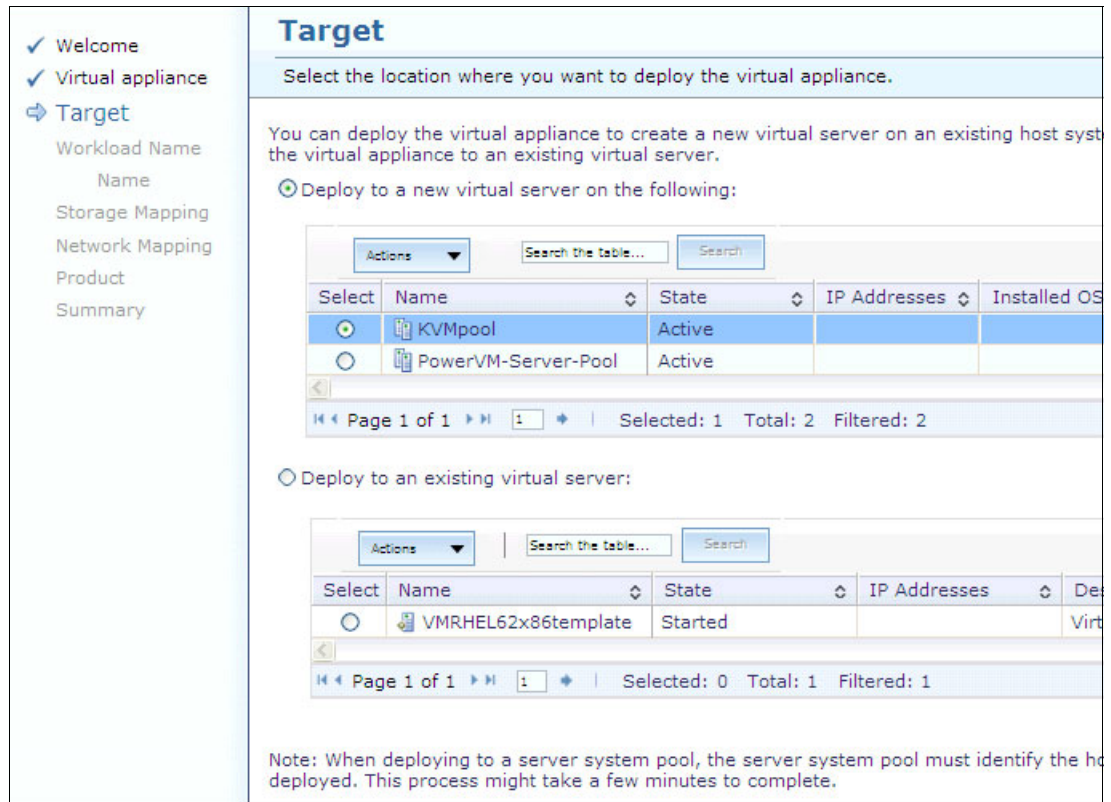

Figure 9-127 Target to deploy a virtual server
4. Select the target location where you want to deploy the new virtual server as shown in Figure 9-127 and click **Next**.